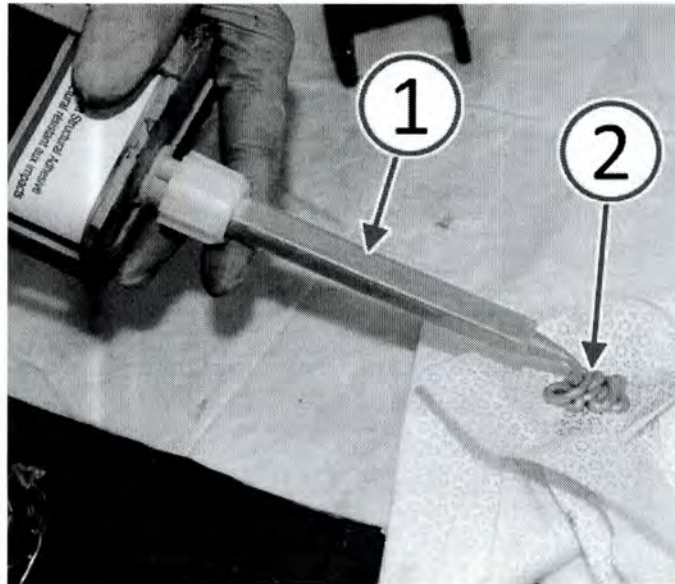

Fig. 8 Attach Mixing Tip To Adhesive Cartridge And Ensure Proper Mix
15. Attach the mixing tip (1) to the adhesive cartridge then dispense a small amount of material (2), approximately the length of the mixing tip, to verify that the adhesive is evenly mixed in the mixing tip (Fig. 8).